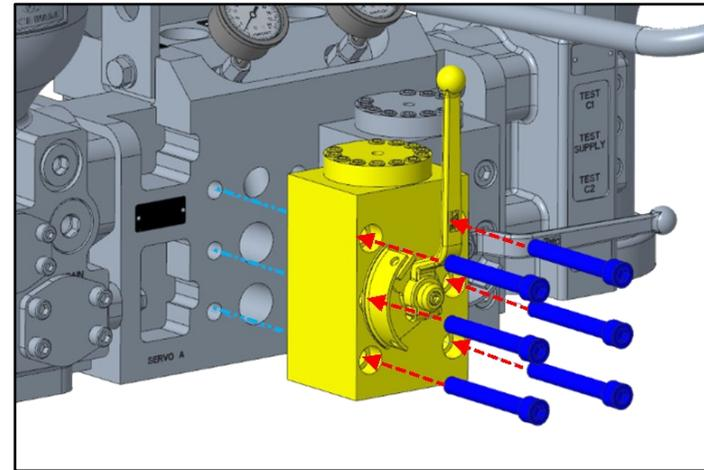

Figure 3-10. Isolation Valve Mating Surfaces Cleaning
6. Apply anti-seize to the six screws and install them inside the isolation valve manifold (Figure 3-10).
7. Align isolation valve screws with VS-DX manifold threaded holes. Hand-tighten screws using a cross screwing pattern (Figure 3-10).